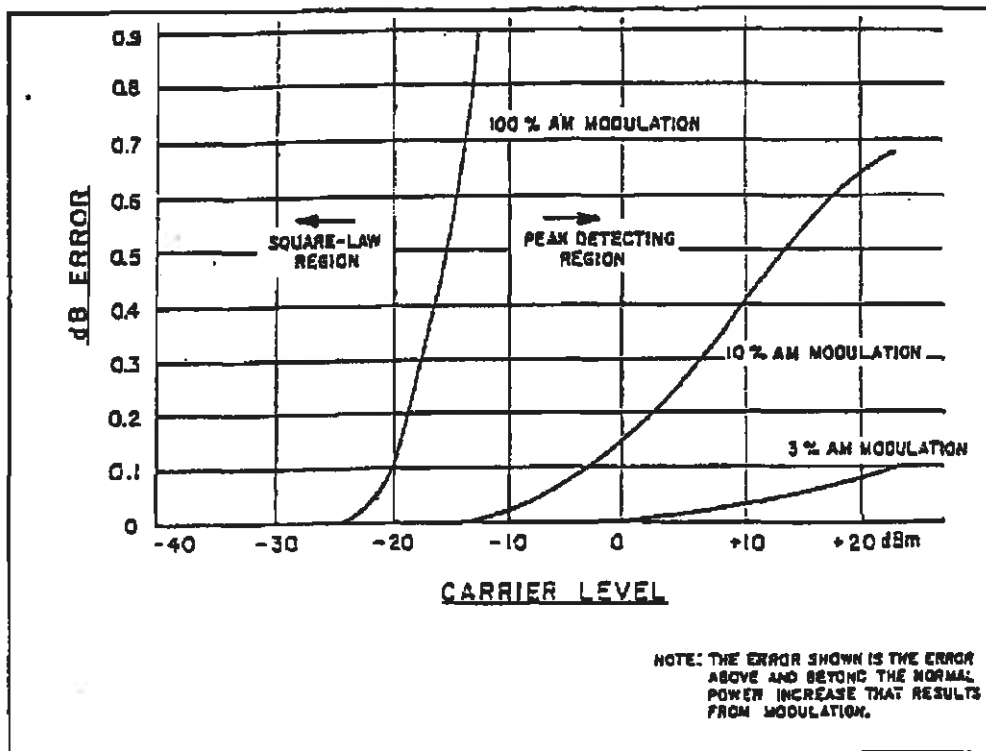

Figure 4-13 Error Due to AM Modulation (PH2004 Diode Head)
- 4-46 The square-law response can be seen in Figure 4-13, where a 100% amplitude modulated signal is shown to have virtually no effect on the measured power at low levels. Of course, frequency modulated and phase modulated signals can be measured at any level, since the envelope of these modulated signals is flat. Frequency shift keyed (FSK) and quadrature modulated signals also have flat envelopes and can be measured at any power level.